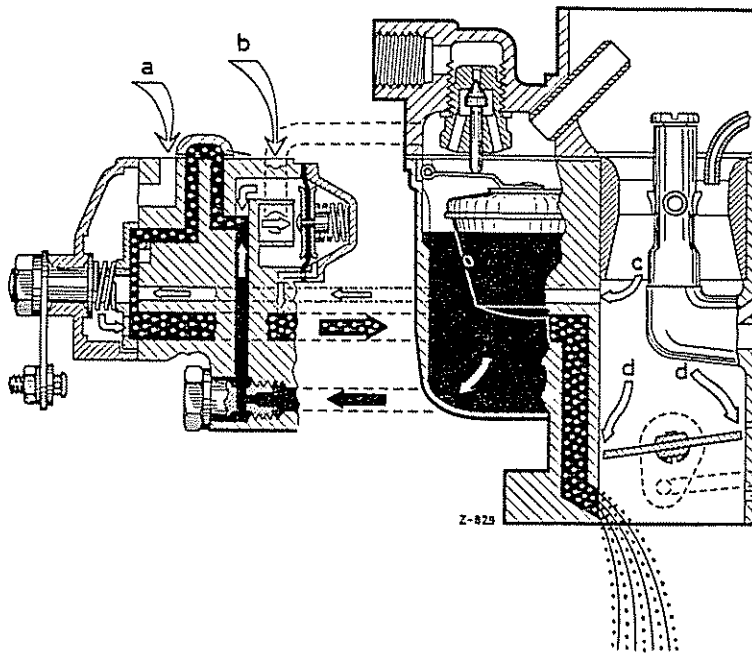

Fig. 07-0/4
Due to the partial vacuum effect the starter air valve opens and admits more air to the starter system from the float chamber via the air canal (5) and the fuel canal (4). This additional air immediately leans out the starting mixture after the engine has started, thus ensuring the proper running conditions for the engine. Fig. 07-0/4 shows the mode of action of the starter mechanism after the engine has started.